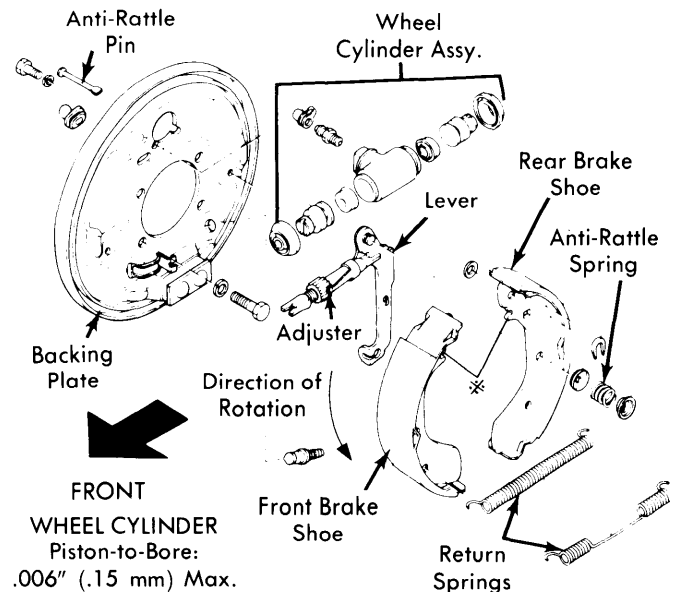

**Fig. 2** Rear Brake Assembly for Datsun 710. Also Note Detail of Sliding Wheel Cylinder for Disassembly Purposes
**Removal, 710** — Raise and support vehicle, remove tire and wheel. Remove brake drum. Disconnect anti-rattle springs and shoe return springs. Take shoes off backing plate. If necessary, remove bolts securing adjuster to backing plate and remove adjuster mechanism. See Fig. 2.